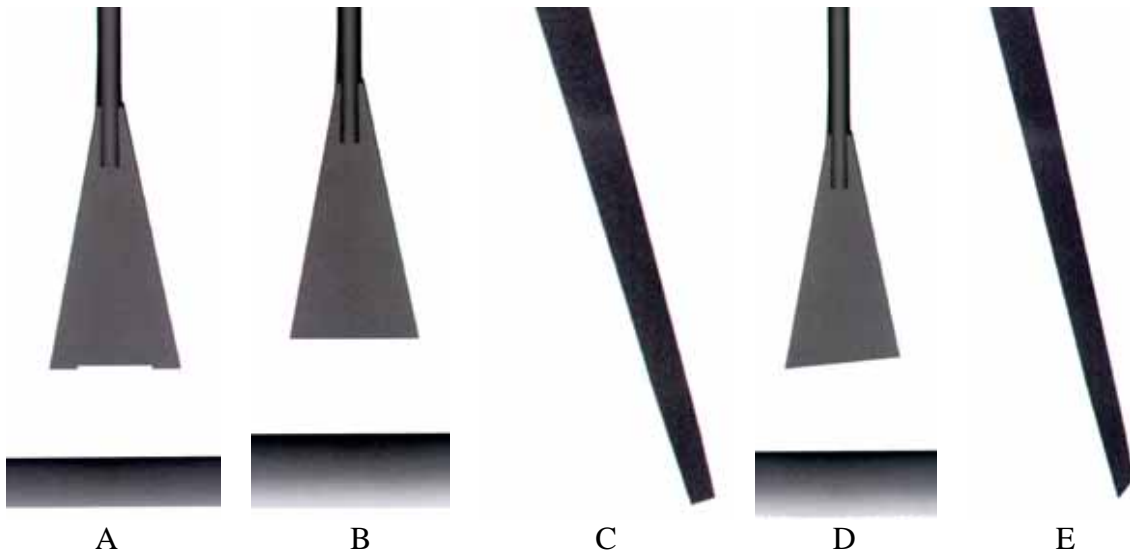

Figure 37: Showing **A**-Wear on the count lever, **B & C**- correct shape of paddle edge after filing, **D & E**- incorrect shape of paddle edge after filing.
in the lower knife-edge of the paddle. Care should be taken to maintain the correct shape of the paddle edge. (See figure 37.) Watch for burrs on the outer edges of the tip of the paddle following the filing process. The count wheel (K) may show some wear along the rim and in the stop notches but this should be negligible and more of a polished area than groove. Generally, the count wheel (K) can be left as is provided the wheel is true and there are no bent teeth.